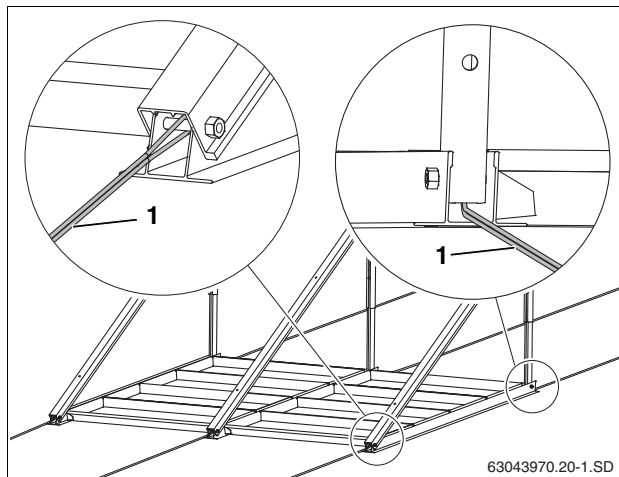

Fig. 28 Flat roof support with guy wires
- ▶ Attach each collector on site to the bolt on the lower profile and a suitable point on the roof, using at least 2 guy wires (Fig. 28, [1]).